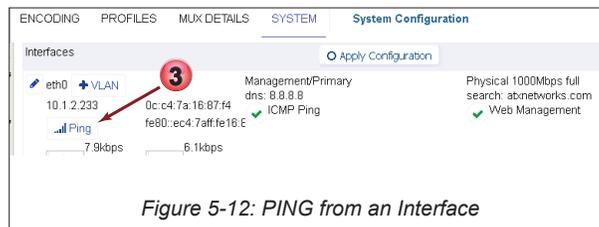

Figure 5-12: PING from an Interface
3. Click the **Ping**  button on any interface to initiate the Ping function, Figure 5-12.